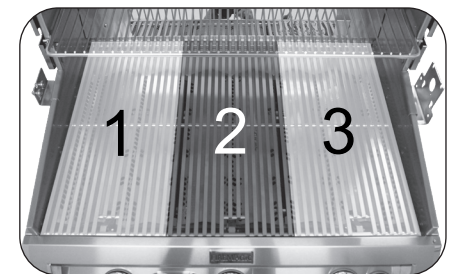

Fig. 35-2 Cooking zones detail
Your grill is divided into three cooking zones, each corresponding to a burner. Burners are numbered starting at one (1) on the left, going to three (3) on the right (see Fig. 35-2). The cooking zones are monitored by the digital thermometer - see DIGITAL THERMOMETER section.